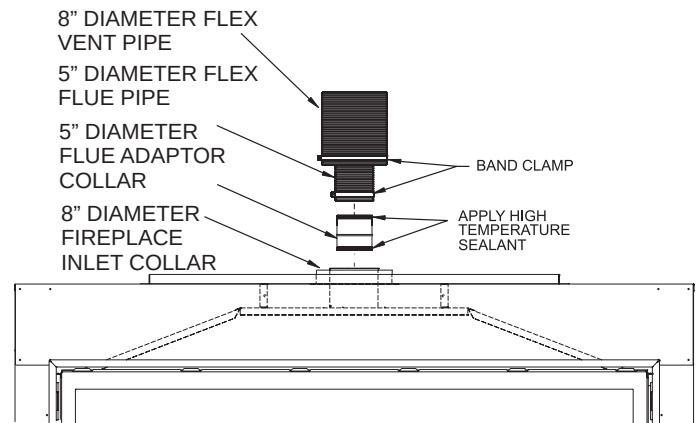

Figure 59a
- 10a.** Apply sealant to the outside of the flue pipe adapter and connect to the flex flue pipe. Then insert the adapter into the fireplace flue. Secure the flue adapter to the fireplace flue with a minimum of two screws provided. **See Figure 59a.**